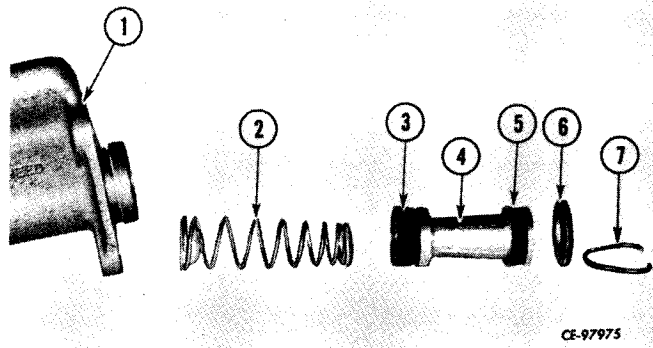

Figure 13-6
Install a new secondary cup (5, Fig. 13-6) into groove of piston (4). Place a new cup (3) on opposite end of spring and install spring and cup into body (1). Install piston (4), cup end first, into body. Install stop plate (6) and lock ring (7).